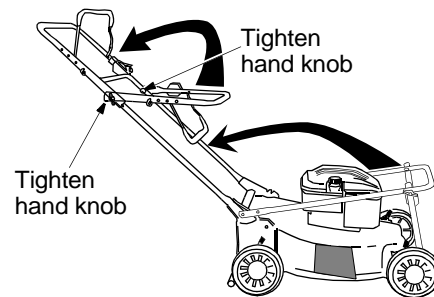

Figure 2
- Pull up and back on the upper handle to raise the handle into the operating position. Make certain the lower handle is seated securely into the handle mounting brackets. Tighten the hand knobs on each side of the handle (carriage bolts must be seated properly into the handle). See Figure 2.